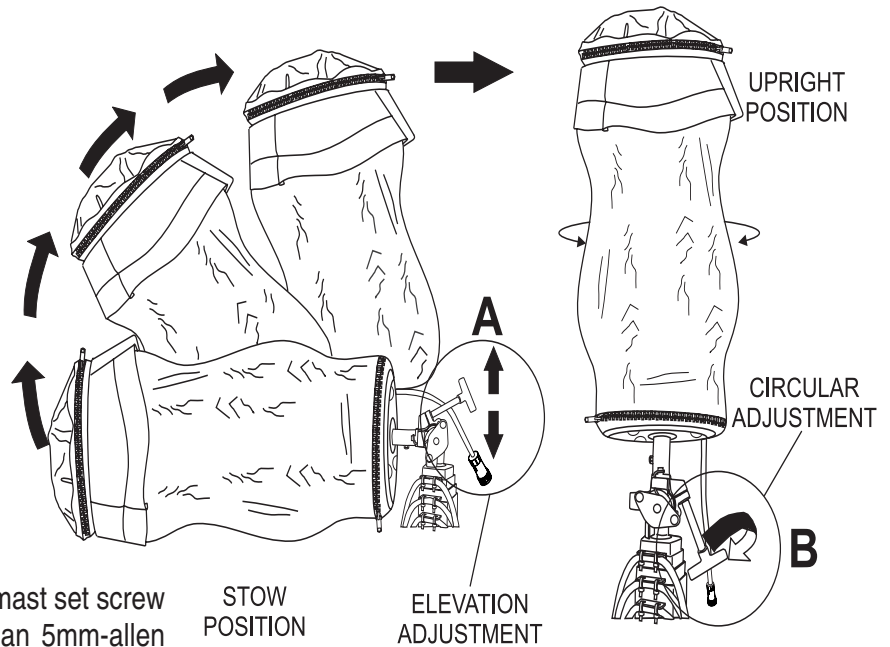

Figure 11. Positioning the Balloon
5. To position the balloon, simply loosen the adjustment lever by turning it counter-clockwise and either push down or up on the lever. Pushing **down** on the lever will cause the balloon to rise. Pushing **up** on the lever will allow the balloon to be lowered. See insert A in Figure 11.
- For circular positioning, swing the lever to the desired position. See insert B in Figure 11.